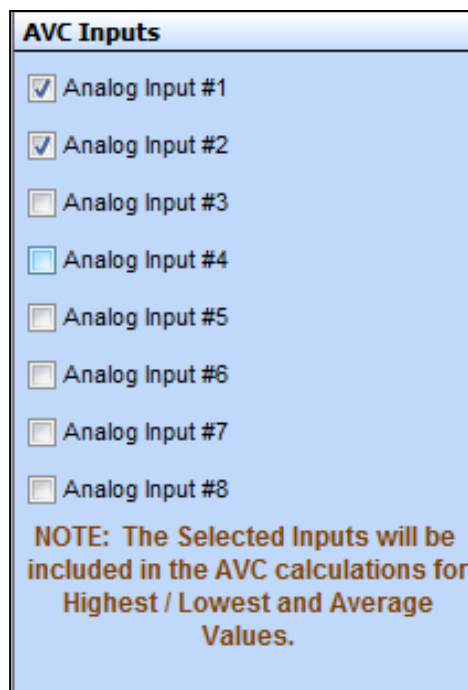
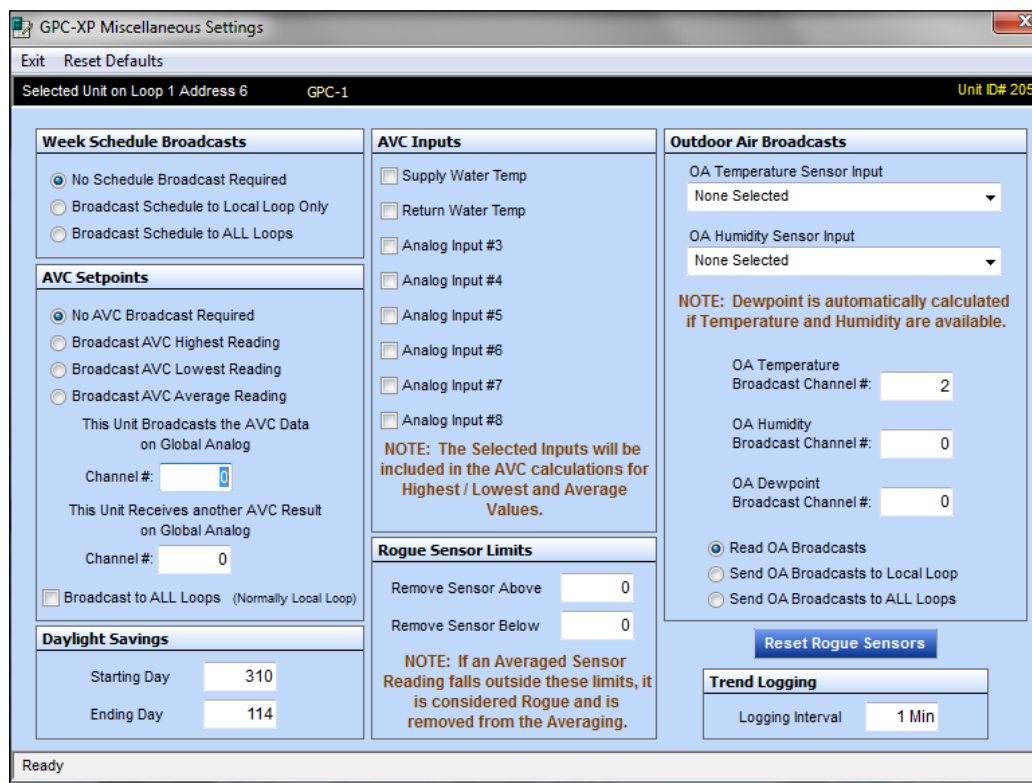

Figure 72: AVC Inputs Window
Figure 85: Miscellaneous Settings Screen
To select which Analog Inputs will be used for this AVC operation, click **<Setpoints>** from the Toolbar located at the top of the *GPC-XP Status Screen*. Then click **<Miscellaneous Settings>**. The *Miscellaneous Settings Screen* will open. See Figure 85, page 40. In the *AVC Inputs Window*, select the Analog Inputs that you wish to include in the AVC function. See Figure 72 below. Inputs not selected will perform their normal configured function and will not affect the AVC operations.
The *Miscellaneous Settings Screen* will open. See Figure 85 below.
The *Week Schedule Broadcasts Window* (Figure 86 below) located in the *Miscellaneous Settings Screen* (Figure 85, page 40) allows you to broadcast the Schedules of this GPC-XP to other Unit Controllers only on the Local Loop of this GPC-XP or to All Loops of a multiple loop system. If an option to broadcast is chosen, all (8) Schedules of this GPC-XP are broadcast. The decision of another controller to accept a specific Schedule is configured on the receiving controller. Schedules cannot be broadcast from one GPC-XP to another GPC-XP.
In the *AVC (Analog Value Comparison) Setpoints Window* (Figure 87 below) located in the *Miscellaneous Settings Screen* (Figure 85, page 40), you can configure the controller to broadcast one of the AVC values so it can be used by another controller(s), such as an HVAC unit controller or a second GPC-XP Controller.
In the *AVC (Analog Value Comparison) Inputs Window* (Figure 88 below) located in the *Miscellaneous Settings Screen* (Figure 85, page 40), select the Analog Inputs that you wish to include in the AVC functions. Inputs not selected will perform their normal configured function and will not affect the AVC operations.
The *Rogue Sensor Limits Window* (Figure 89 below) is located in the *GPC-XP Miscellaneous Setpoints Screen* (Figure 85, page 40). This allows you to remove an AVC sensor value from the AVC Averaging function if it falls outside the range specified by the Above/Below values in this field. This condition could be caused by a bad sensor or a space condition that gets out of control for some reason. A Rogue Sensor Alarm can be generated and requires you to configure “Alarming Enabled” on the *Analog Input Configuration Screen* (see Figure 11, page 13) for each Analog Input included in the AVC function. The sensor will automatically be re-included in the AVC Average function if it returns to the acceptable range. The alarm, however, is locked until it is cleared by clicking on the **<Reset Rogue Sensors>** button (Figure 90 below).
In the *Outdoor Air Broadcasts Window* (Figure 91 below) located in the *Miscellaneous Settings Screen* (Figure 85, page 40), you can configure which inputs will be used to read the Outdoor Air (OA) Temperature and the OA Humidity. These are the values that will display in the Outdoor Status section of the *GPC-XP Controller Status Screen* (Figure 8, page 11).
In the *Daylight Savings Time Window* (Figure 92 below) located in the *GPC-XP Miscellaneous Setpoints Screen* (Figure 85, page 40), if you want the Schedules on this GPC-XP to respond to Daylight Savings Time changes, you must enter the Start and End dates in this field.
In the *Trend Logging Interval Window* (Figure 93) located in the *Miscellaneous Settings Screen* (Figure 85, page 40), you can configure how often you want the GPC-XP to log the Input and Output values and conditions by entering a Logging Interval and press **<ENTER>** to save. The maximum amount of time that can be entered is 60 minutes.
From the top toolbar of the *Miscellaneous Settings Screen* (Figure 85, page 40), click on **<Reset Defaults>**. See Figure 94 below.